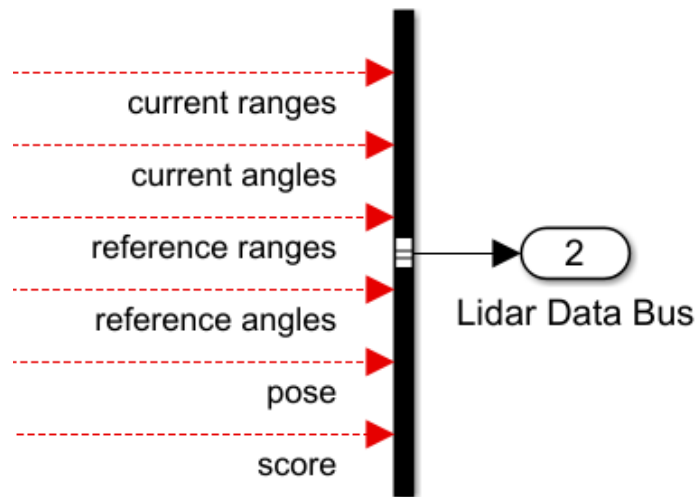

Figure 4: LiDAR Data Bus inputs
7. The output of the **Lidar & Localization** subsystem is a data bus that contains current scan data, reference scan data, and the estimated pose output from the Scan Match Block. Complete the connections to the bus creator shown in Figure 4.